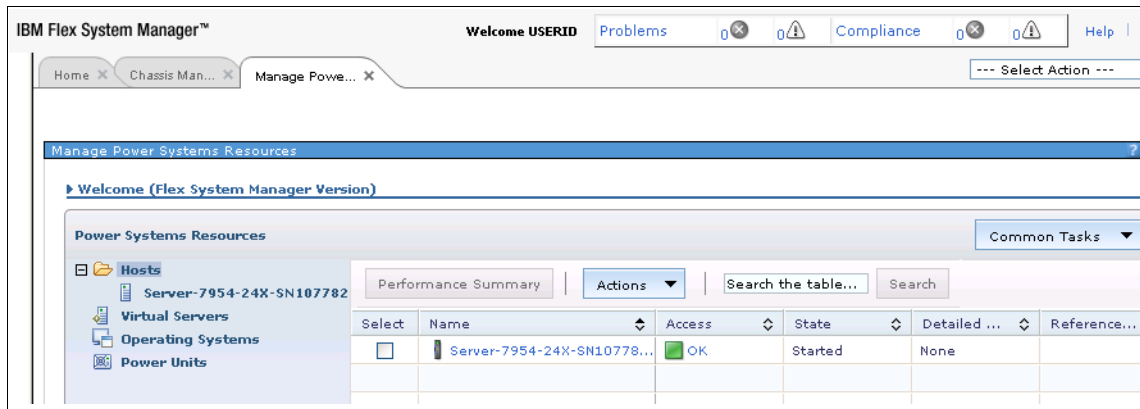

Figure 8-7 FSM Manage Power Systems Resources
5. Click **Manage Power Systems Resources** to display the Manage Power Systems Resources main window, as shown in Figure 8-7. A new tab was added to the main tab area.
When you open the Manage Power Systems Resources main window (as shown in Figure 8-7), you see choices to manage hosts and virtual servers. In this section, we describe how to create the VIOS virtual server.